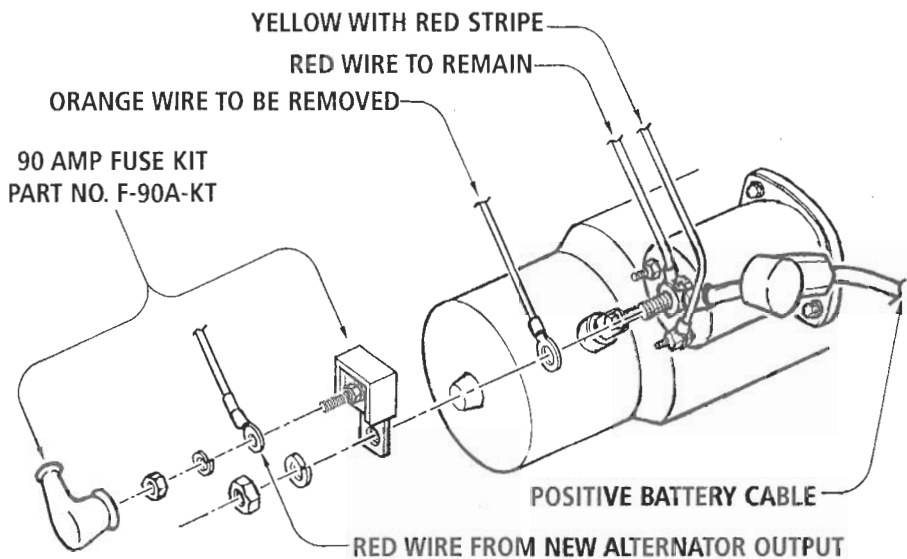

FIGURE 1
MODELS AFFECTED: ALL MCM 470 Series Engines with Delco Starters. These starters are easily distinguished from the earlier Prestolite Starters because they have a round solenoid on top of the starter, and the Prestolite units don't (see Figure 1). These engines are 1983 and newer production beginning with Serial Number 6218037.
SOLUTION: If you have one of these engines, and you are installing Wagner Products Alternator Kit DC-60, you must obtain Wagner Products 90 amp fuse kit, Part No. F-90A-KT and install it on the starter solenoid as shown in Figure 1. We highly recommend that this fuse be installed on all engines with Delco Starters, (whether or not the Alternator Conversion Kit has been installed) and to further enhance the safety of the Alternator Conversion Kit installation, the following wiring changes should be implemented.
- A. Remove the Orange wire from the voltage regulator and from the 90 amp fuse or starter solenoid and discard. (See Figure 1) NOTE: If the wire is contained in the wiring harness cut the terminals off both ends and tape back securely.
- B. Install the 90 amp fuse on the starter solenoid as shown in Figure 1.
- E. Install the alternator output wire on the 90 amp fuse using hardware provided and cover with insulator boot. (See Figure 1).